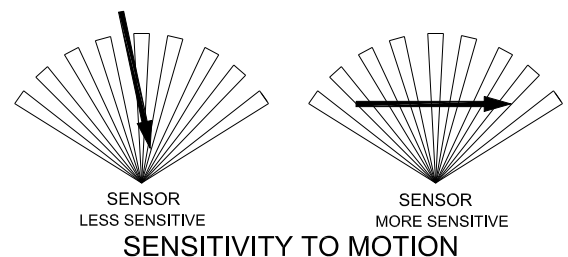

FIGURE 2
- Prior to mounting, remember to position the motion sensor so that a moving object cuts "across" its beams, not directly towards them." (FIGURE 2)